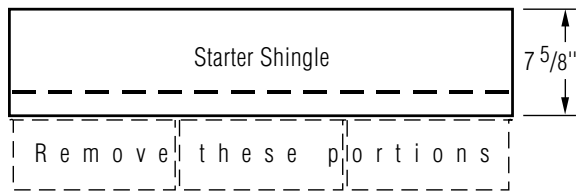

Figure 11-6: Make starter shingles that are 7-5/8" in height.
1. Use CertainTeed Swiftstart® Starter, or three-tab self-sealing shingles with the lower tab portions removed. Be sure that the starter shingles are at least 7-5/8" in height. (Figure 11-6).